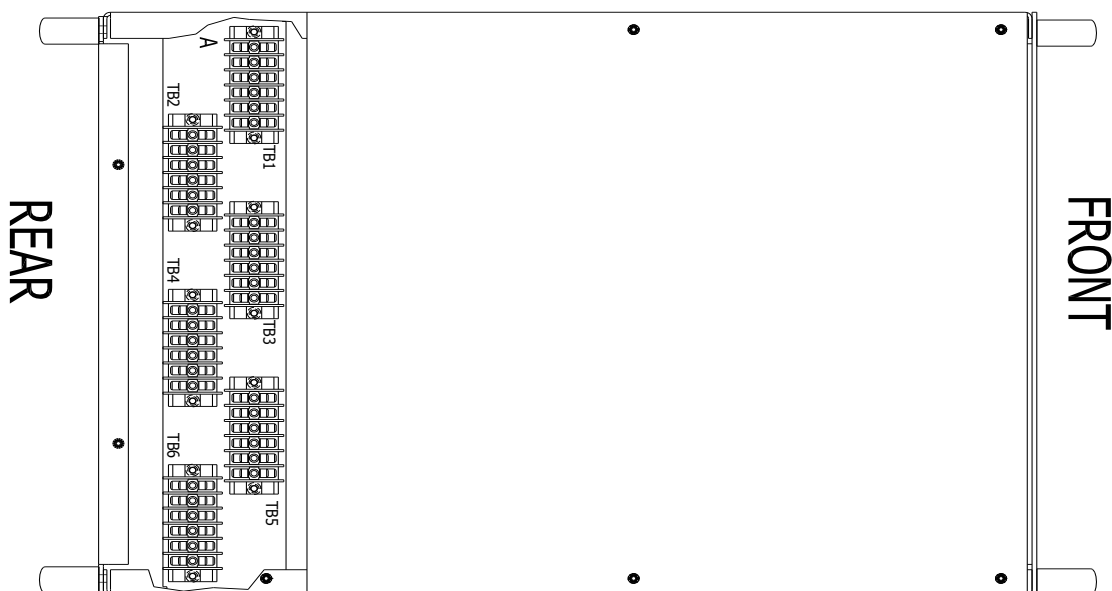

FIGURE 3.2.5 MODELS 390-ASX & 3120-ASX OUTPUT VOLTAGE RANGE CONFIGURATION
Refer to Figure 3.2.5 for location of components referenced below and range tap selection information.
- 2) Wire for X.X:1 ratio as per wire table of Figure 3.2.5.